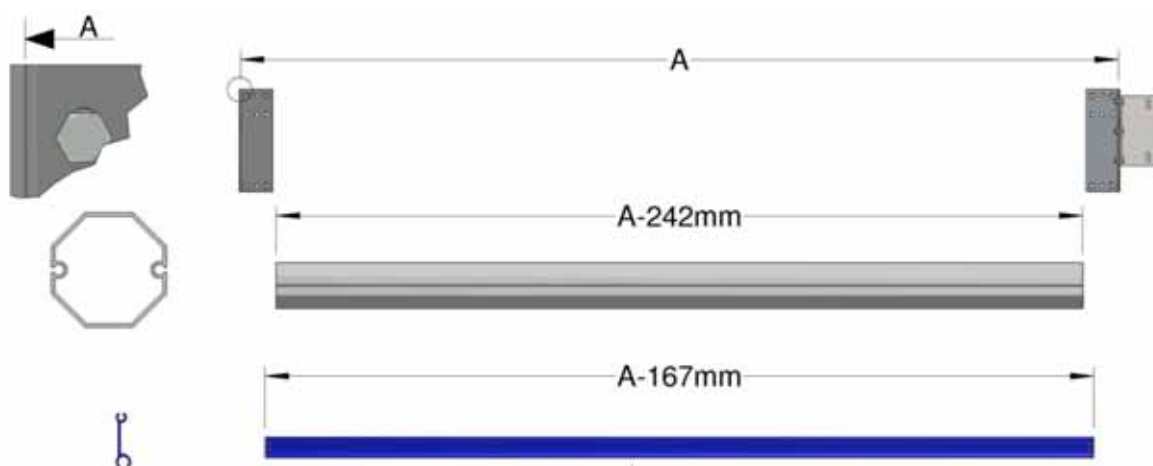

Figure 5a, Standard Cutting Lengths of Tubes and Bars
- 3a. If it is required to cut your door, measure the daylight gap between the inside face of the top brackets (A) and cut to the following rules (Figure 5a), do not cut the lower flap and bottom tube at this point.